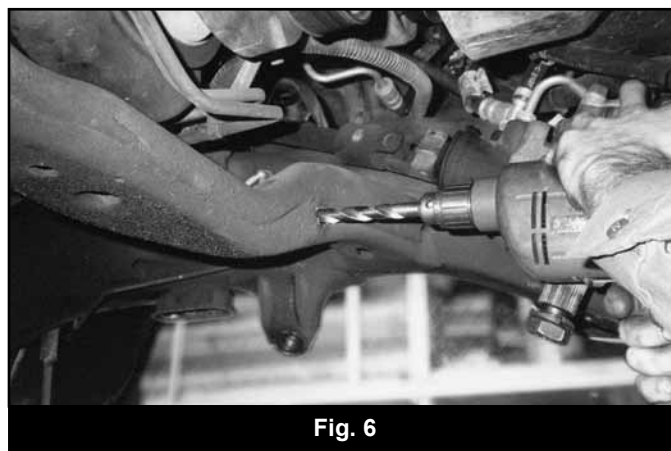

Fig. 6
22. Use a 1/2" drill and start through the hole in the supplied brace and drill through the crossmember being sure to come out just below the weld mount on the front side of the crossmember. It may help to drill a smaller pilot hole and then open to 1/2". (Fig. 6)